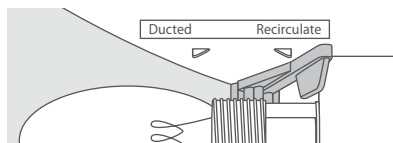

Fig.9 Lever set to recirculating position.
- 3 Slide the lever across to the right hand side (fig.9) ensuring the lever is sitting beyond the moulded catch. This redirects the air back into the kitchen via the front air vent.